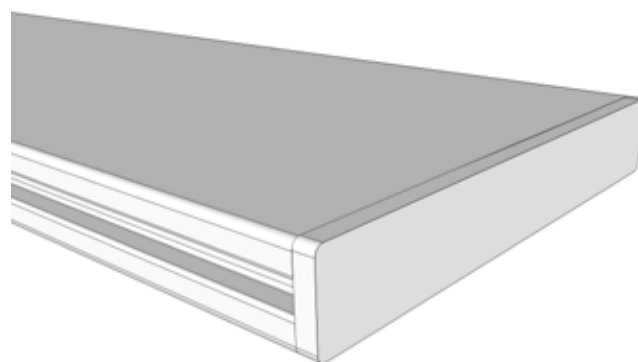

Figure 16
- 2 The diagram of end cover after installation is shown in Figure 16: